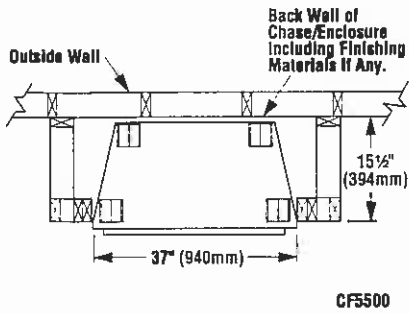
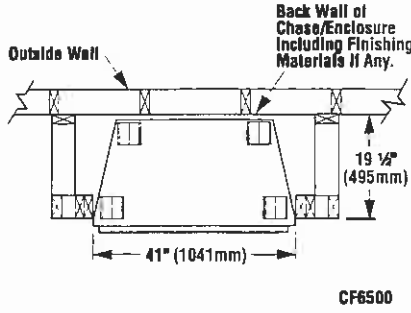

Figure 4
Figure 7
Step 1. Frame CF5500 appliance enclosures as illustrated in Figures 4, 5 and 6. Frame CF6500 appliance enclosures as illustrated in Figures 7, 8 and 9.
Note: Framing dimensions in Figures 4 - 9 are calculated for a nailing flange depth of 1/2" (13 mm).